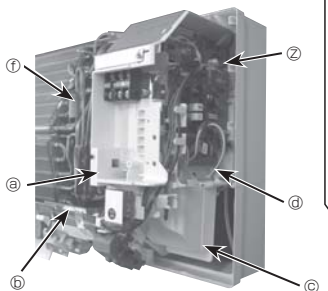

Fig. 6-5
- 8 Remove the cable guide. (Fig. 6-5)
- 10 Remove the liquid pipe thermistor (TH2). (Fig. 6-5)
- 11 Tear off the tape partly of vane motor and loosen the cord. (Fig. 6-5)
- 12 Loosen the cord of the fan motor. (Fig. 6-5)